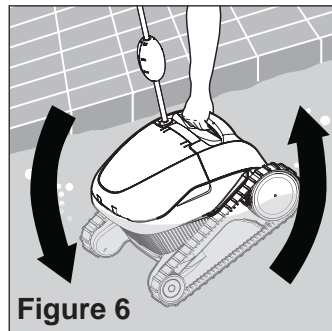

Figure 6
3. Gently tilt the cleaner from side to side or turn upside down to release trapped air. See **Figure 6**.